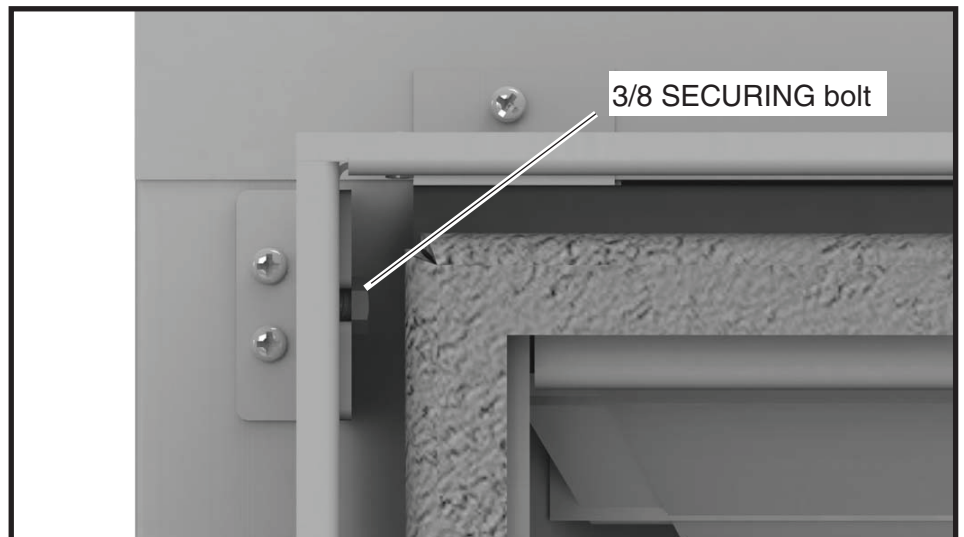

Figure 19: Lintel clamping bolt.
4. Loosen the securing bolts in the upper and lower corners on each side of the lintel and remove the lintel. Rotate the assembly to have the desired edge away from the fireplace (Figure 19).